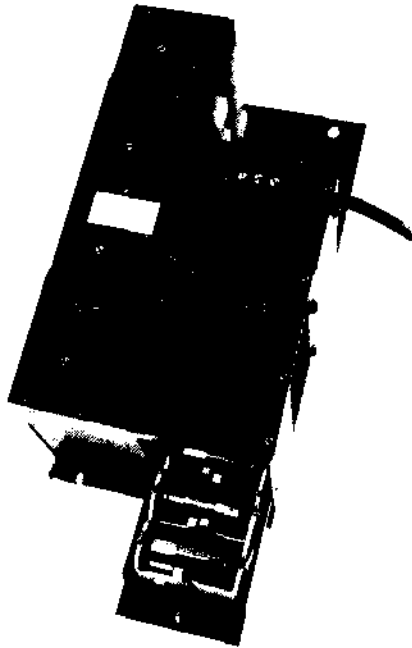

Figure 18 PS31, 61 Battery Pack Opened
- 3b. For Type **PS31** and **61** Power Supplies, loosen the screw and let the battery tray swing down on its hinge. See Figure 18.